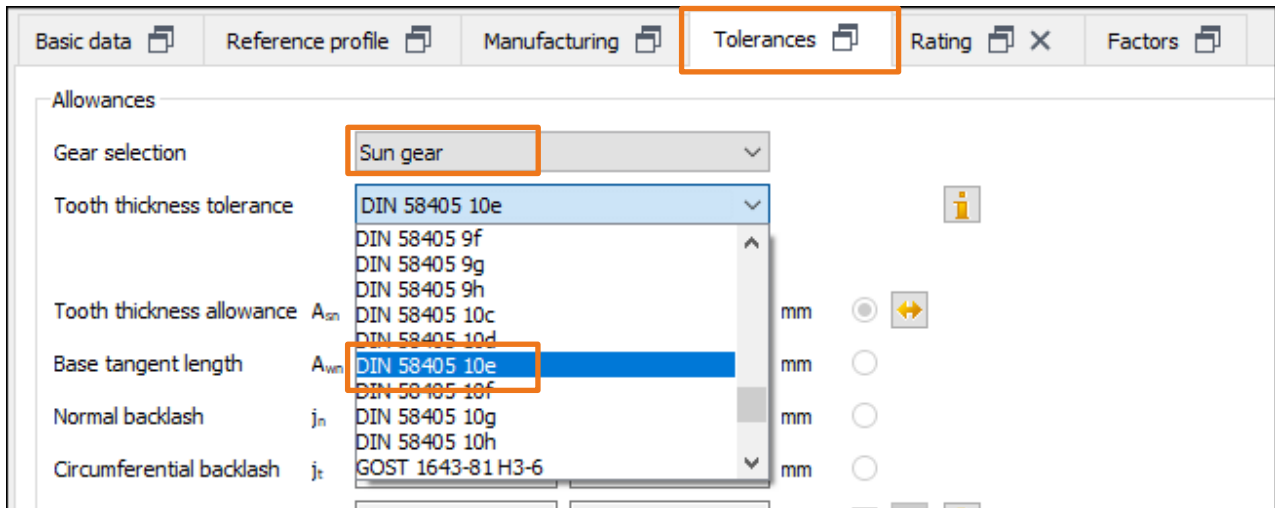
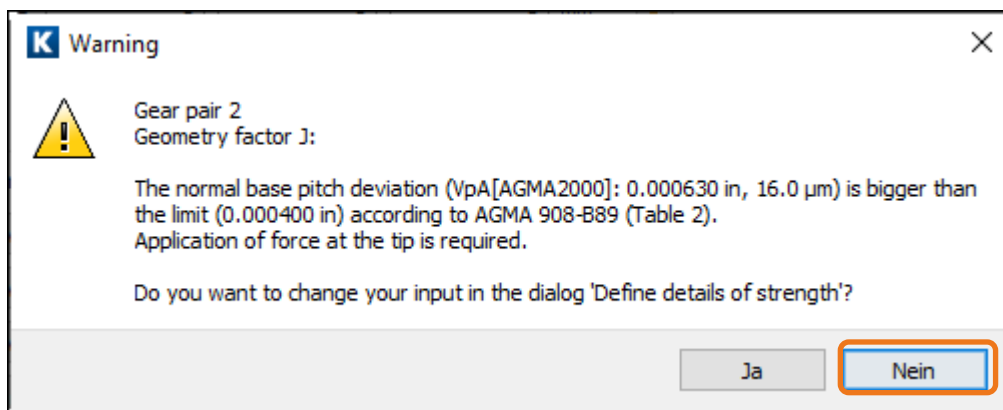
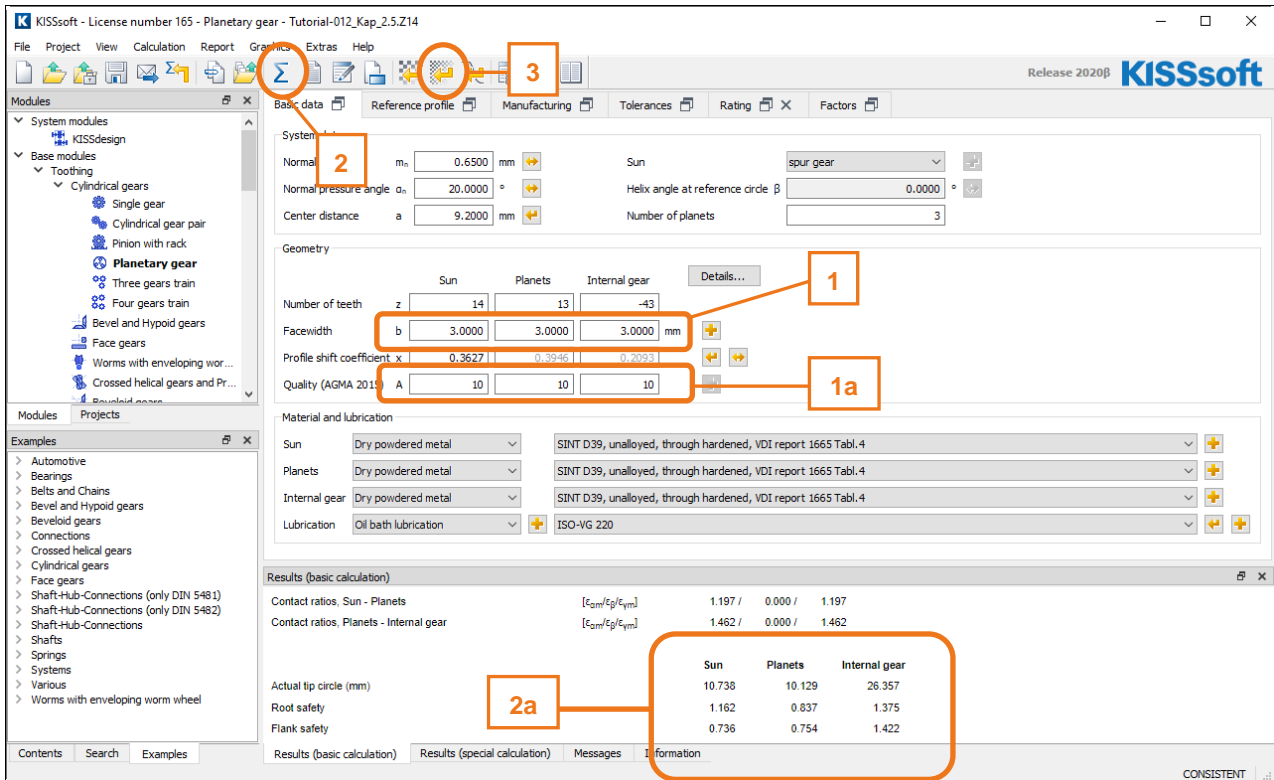

Figure 16. Setting the tolerance
Figure 17. Changing the tooth form factor
Figure 18. Calculate, check the results, and call the Fine sizing function
As the module is smaller than 1.0, we recommend you use a different standard for the tolerances. To do this, go to the «**Tolerances**» tab. In the dialog, select the tooth thickness deviation «DIN 58405 10e» for each gear, Figure 16. Here, 10 indicates the quality (interval width), where 10 means «lower quality». The letter «e» represents the definition of the interval limit and therefore also the backlash. For this reason, you should go to the «**Basic data**» tab and also set the corresponding quality setting to 10, (see also (1a) in Figure 18).
After you have defined the tolerances, you may want to input a better value for the facewidth (in this example we are leaving the values unchanged (1), see Figure 18. Click **[Calculate F5]** (2). You now see the first results of the roughly sized planetary gear set in the «Results overview», see also (2a) in Figure 18. Click [No] to close the message displayed in Figure 17.
This completes the pre-sizing step. This is used to provide the Fine sizing function with values that are approximately the correct size for the subsequent processing steps. Now, to generate an optimized solution, click the Fine sizing (3) button Figure 18.